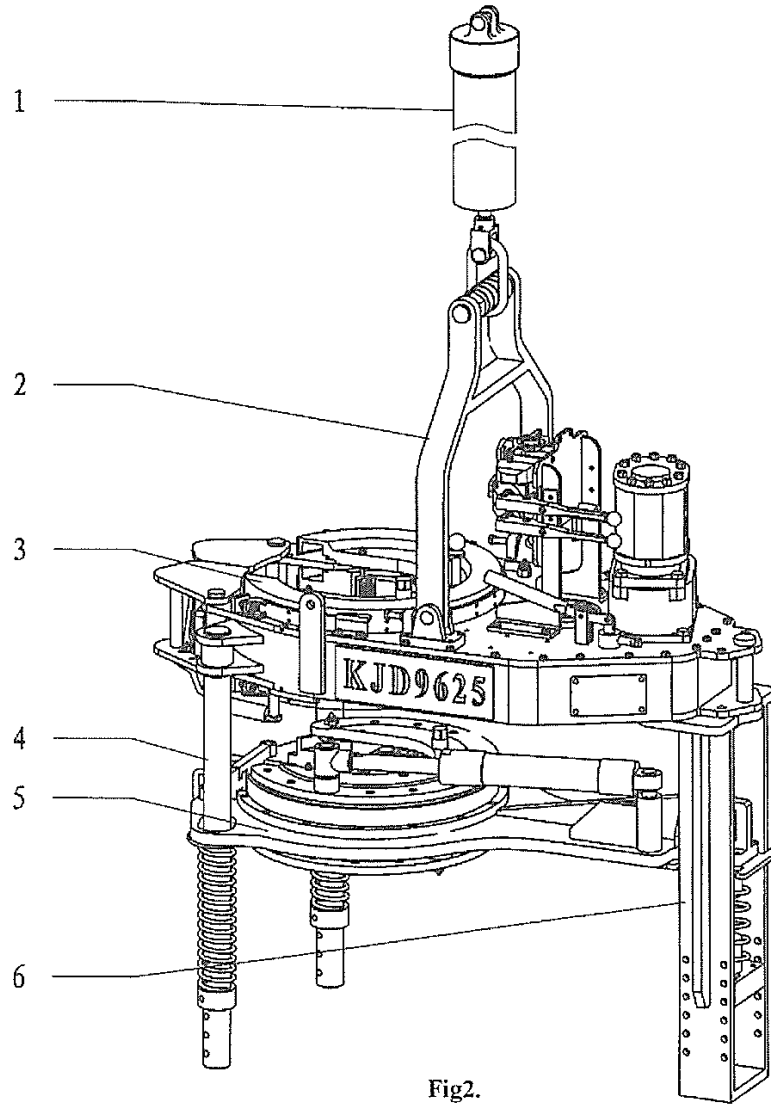

Fig2.
- 8.1 General assembly (Fig2. Table2)
8.1 General assembly (Fig2. Table2)